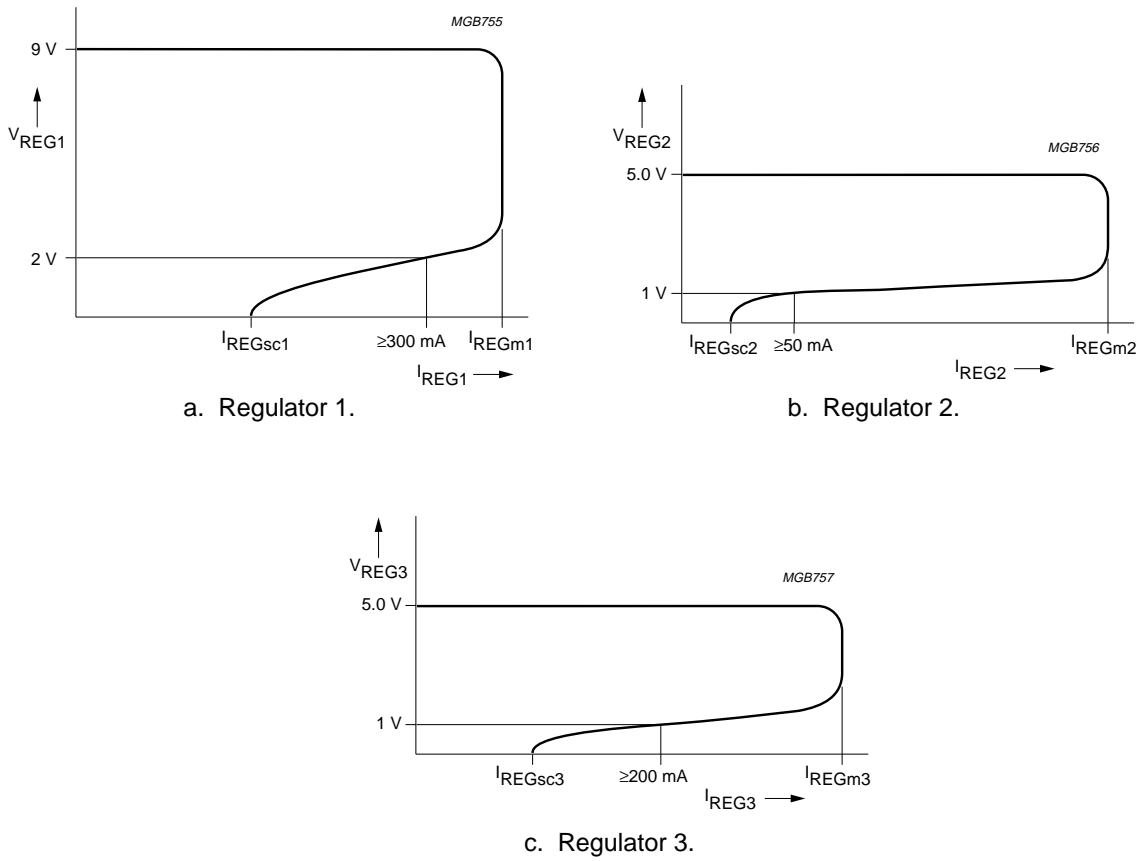

Fig.4 Foldback current protection for regulators 1, 2 and 3.
4. At current limit,  $I_{REGmn}$  is held constant (see Fig.4 for behaviour of  $I_{REGmn}$ ).
5. The foldback current protection limits the dissipated power at short-circuit (see Fig.4).